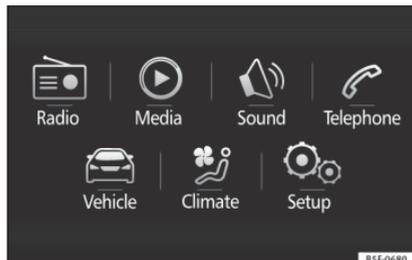

Fig. 40 Easy Connect: Main menu.
- Press the system's **MENU** button, then the system's **Vehicle** function button **»» Fig. 40** or the system's **CAR** button to go to the **Vehicle** menu **»» Fig. 41**.